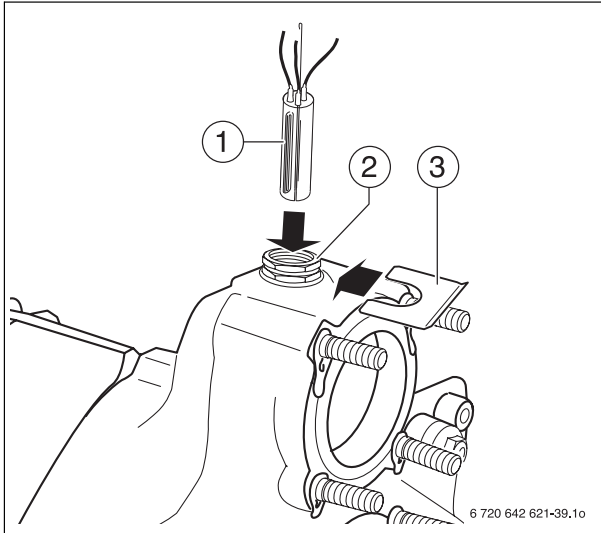

Fig. 48 Fitting the sensor set
The temperature sensor set connected to the control panel (consisting of three temperature sensors and one sensor blind piece → Fig. 48, [1]) is installed in the sensor well R³/₄ ".
- ▶ Route capillary pipe sensor to the measuring port of the boiler and then guide the sensor into the sensor well (Fig. 48, [2]) and secure with the retaining clip (Fig. 48, [3]).